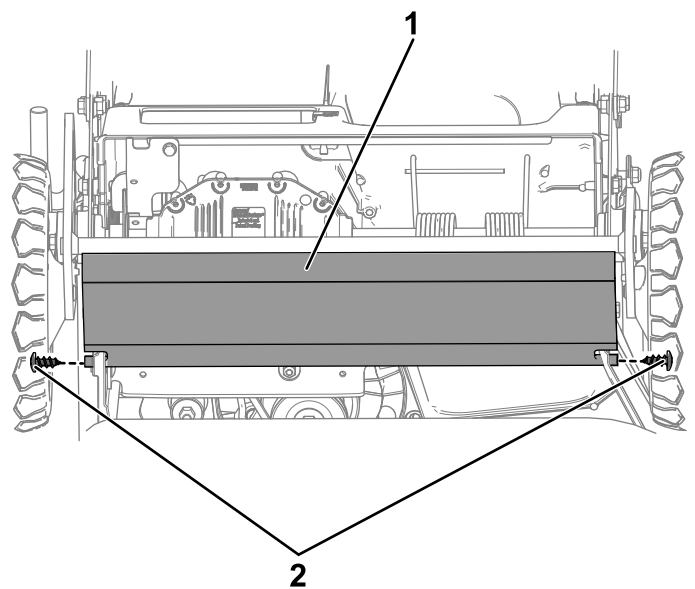

**Figure 47**
8. Remove the rear-viewing window, located under the rear-discharge deflector, by removing the bolt holding it in place (Figure 47).